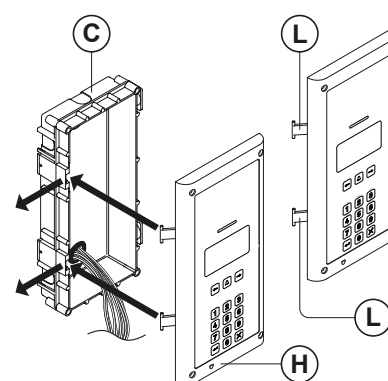
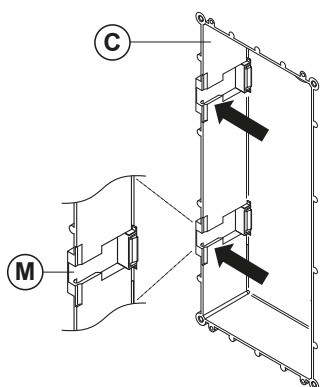

Fig. 62
Fig. 63
6. Take the frame's hinges (L) and hook the module support frame (H) to the flush box (C), starting from the left following the guide arrows, as shown in **Fig.62**. Ensure that the frame's hinges (L) (**Fig.62**) fit inside the relevant hinge mounts (M) inside the flush box (C), as shown in **Fig.63**;